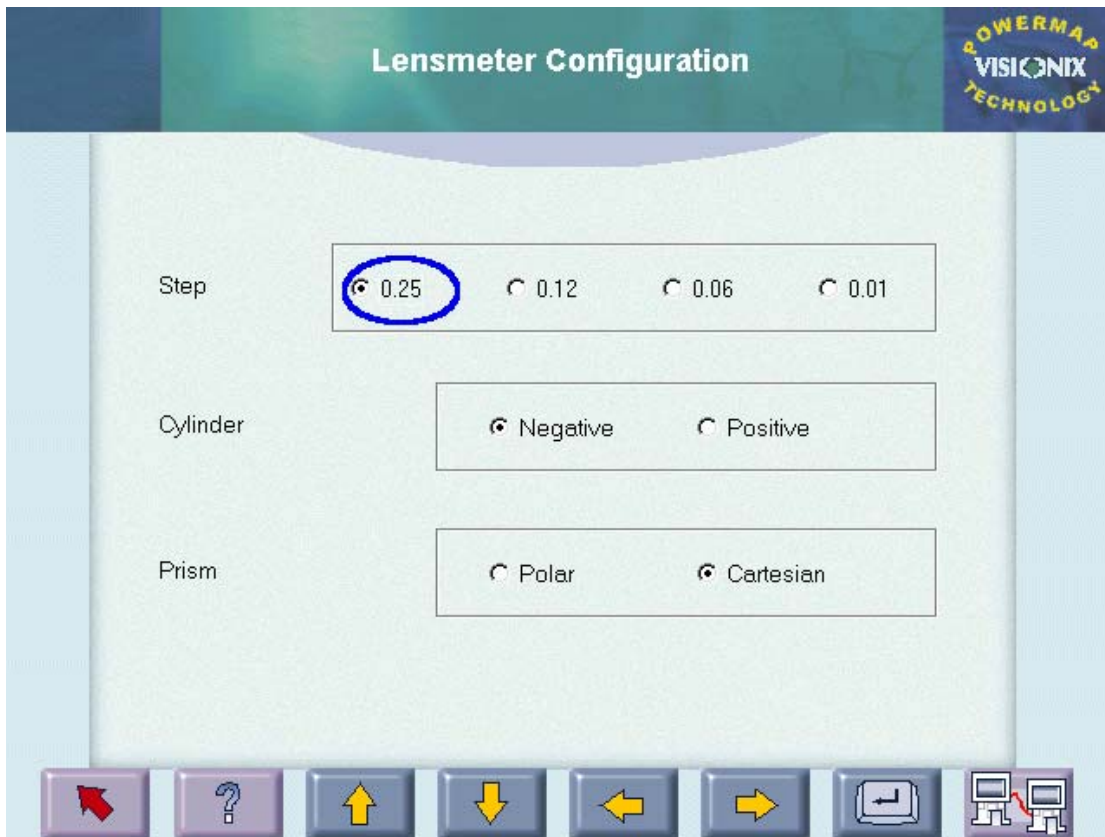

Figure 18
1. Press the **Help/Setup** button  ; the **Setup** screen is displayed. (see Figure 18).